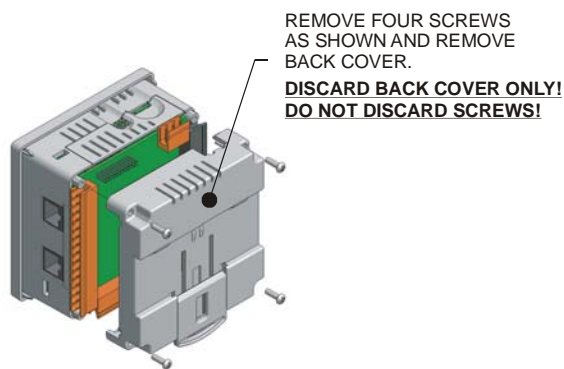

Figure 3.1 – Removing Back Cover of the XLe
2. Remove the four screws on the back of the XLe unit and remove the back cover. The back cover can be discarded or saved, but it will be replaced with the extended back cover that ships with the XEC Ethernet COM module. Screws are re-used (**Figure 3.1**).